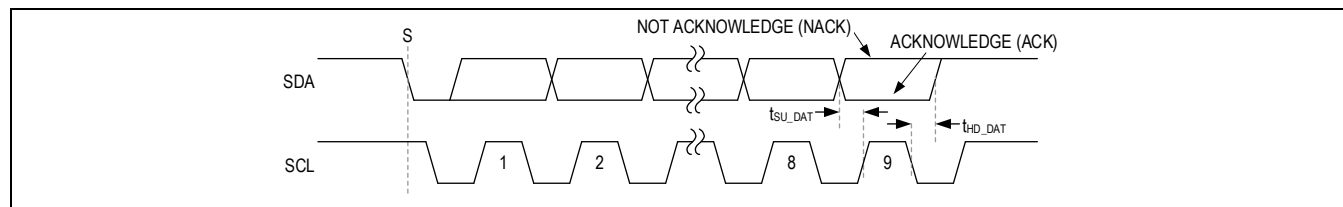

Figure 16. Acknowledge Bit
Both the I²C bus master and this device generate acknowledge bits when receiving data. The acknowledge bit is the last bit of each nine-bit data packet. To generate an acknowledge (A), the receiving device must pull SDA low before the rising edge of the acknowledge-related clock pulse (ninth pulse) and keep it low during the high period of the clock pulse. See Figure 16. To generate a not acknowledge (nA), the receiving device allows SDA to be pulled high before the rising edge of the acknowledge-related clock pulse and leaves it high during the high period of the clock pulse.